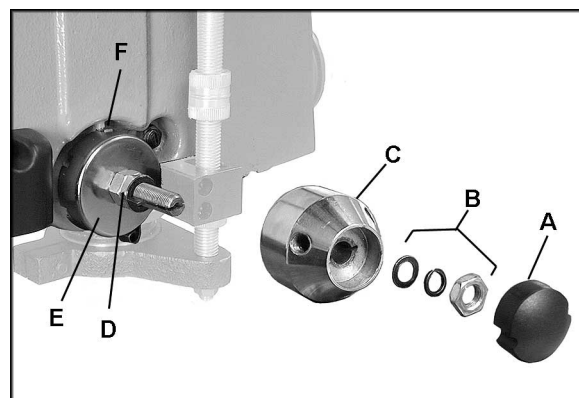

Figure 19
2. Pry off the cap (A, Figure 19) and remove the hex nut and two washers (B). Pull off the hub (C).
3. Loosen the two inner hex nuts (D) *Do not remove*.
4. Pull out slightly the coil spring cover (E, Figure 19) while firmly holding it. **DO NOT allow the coil spring cover to turn freely in your hand, or the spring will unwind.**
5. Rotate the coil spring cover until the tab (F) on the spring retainer engages the next notch in the coil spring cover. Rotate the coil spring cover counterclockwise to increase spring tension, clockwise to decrease.
The quill return spring should receive SAE 20 oil once yearly. Apply the oil beneath the coil spring cover (E, Figure 19) using a squirt can.